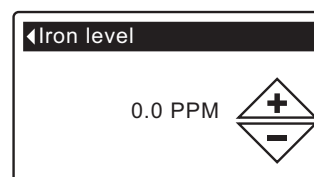

FIG. 44
5. Press the SELECT (O) button to display the Iron level screen (See Figure 44).